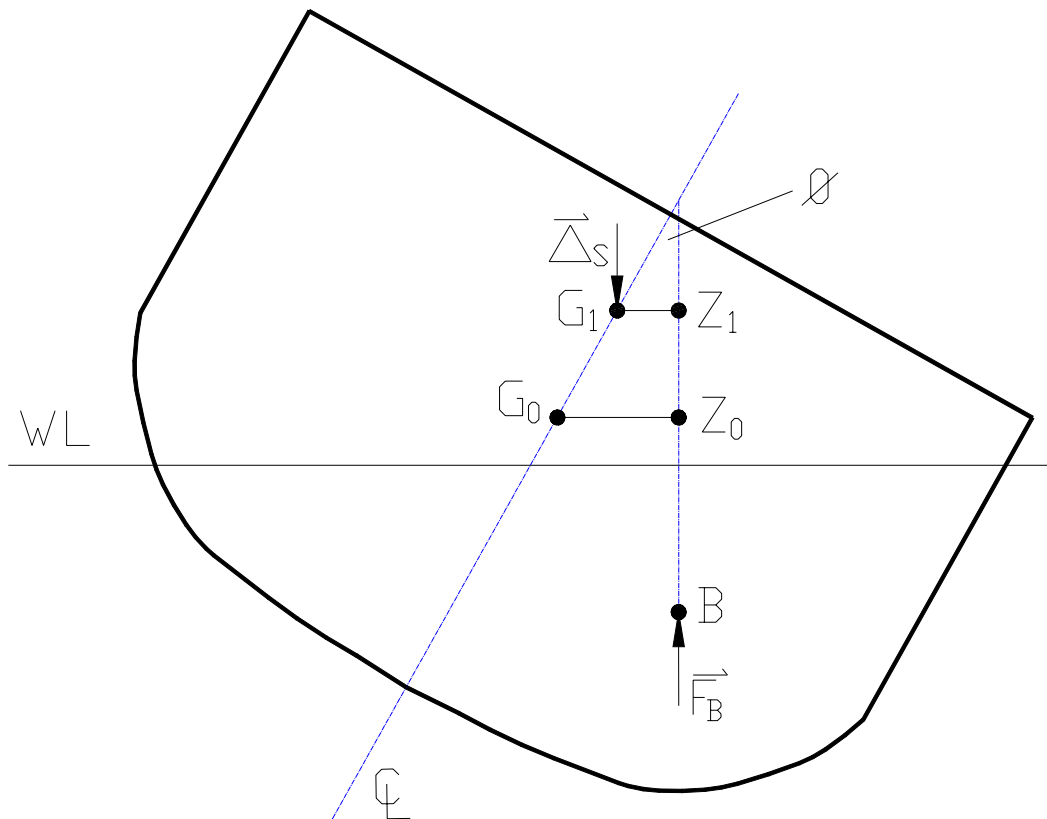

Figure 4 - The Heeling Ship with a Vertical Shift in the Center of Gravity
15. In the next part of this lab, the center of gravity of the ship will be raised thereby increasing KG. The effect this has upon the curve of intact statical stability will be measured. It should be possible to predict this effect by an analysis of the heeling ship shown diagrammatically at Figure 4.
16. In the box below, use Figure 4 to derive an equation for the new righting arm (G_1Z_1) after a vertical shift in the center of gravity from G_0 to G_1 . Your equation should include the old righting arm (G_0Z_0) and the angle of heel (ϕ).